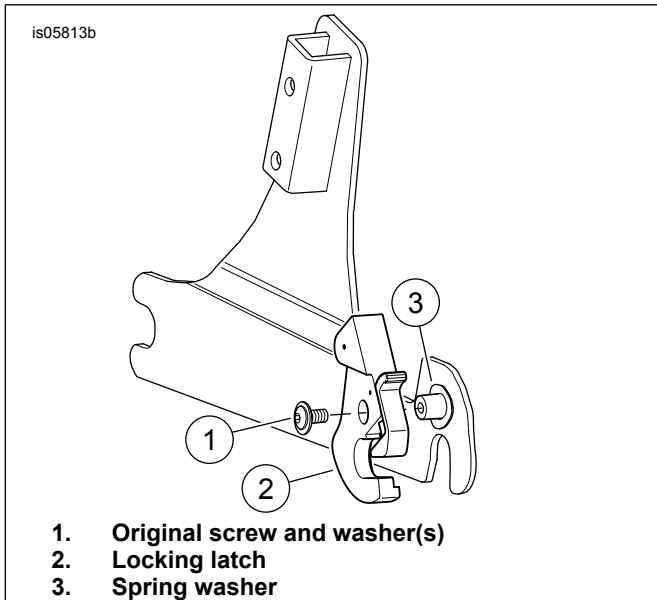

Figure 7. Inner Right (Relief Hidden) Installation
Solo Rack Kit	See Figure 7, Inner Right Installation (Relief Hidden)
1. See Figure 7. Remove right non-locking latch. Leave the right spring washer on the right mounting hub.